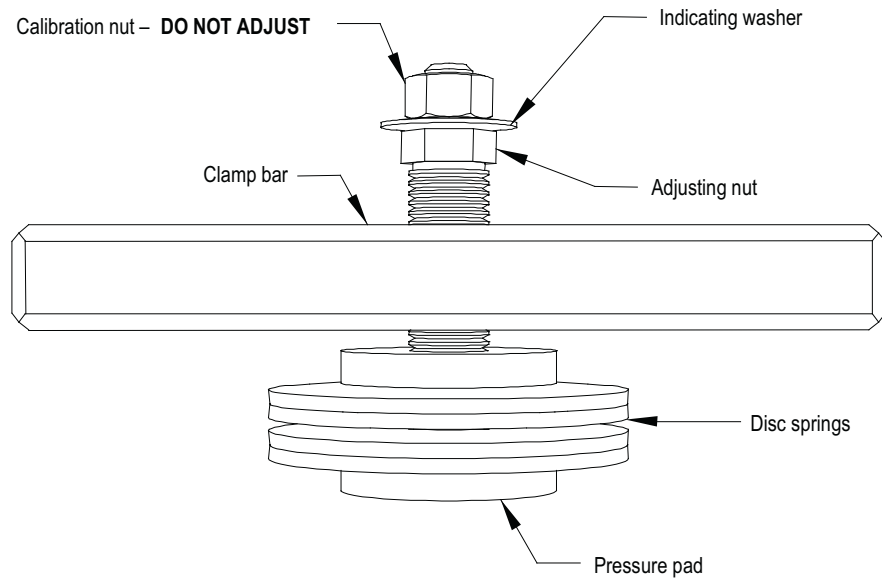

Figure 36 - Clamp head illustration
2. Remove the heatsink with the thermal sensor from the PowerCage. Remove clamp load (refer to Figure 36 on page 52).